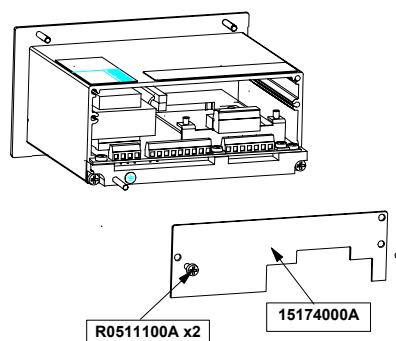

Figure 7-4 Installation in Panel Mount Enclosure
12. Attach the new rear panel (15174000A) to the enclosure using the two screws (R0511100A) removed in step 2. See Figure 7-4.